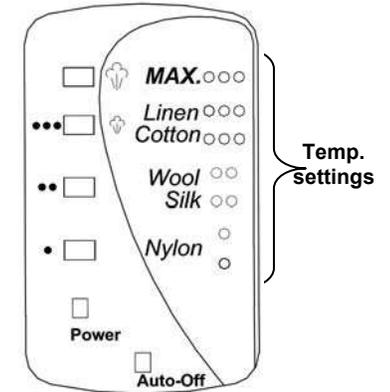

Fig. 6
- The light on the right side of the LED display panel will stop flashing when the desired temperature has been reached. (Fig. 6)